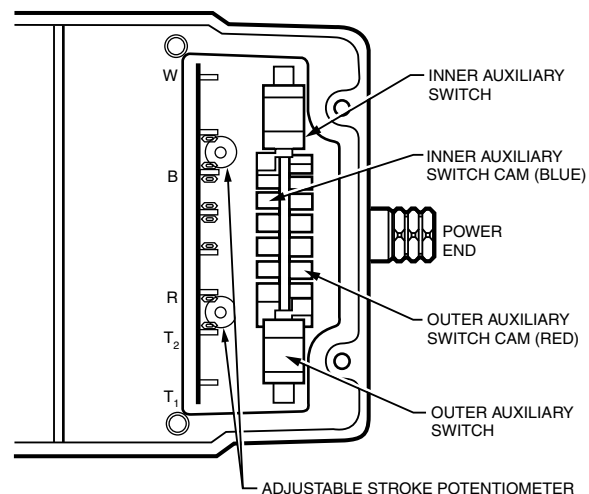

Fig. 11. Terminals and Adjustments.
3. Fig. 11 shows that the motor terminals are quick-connects located on top of the printed circuit board.